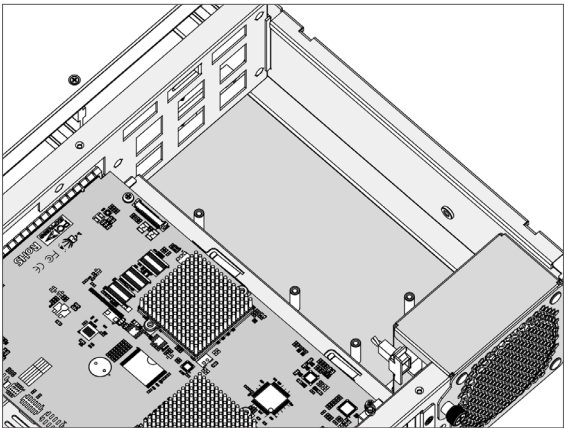

Figure C-2, Removing the Cover
1. Loosen the screws and remove the cover from the ARC-8050T3-12R enclosure, as shown in Figure C-2.